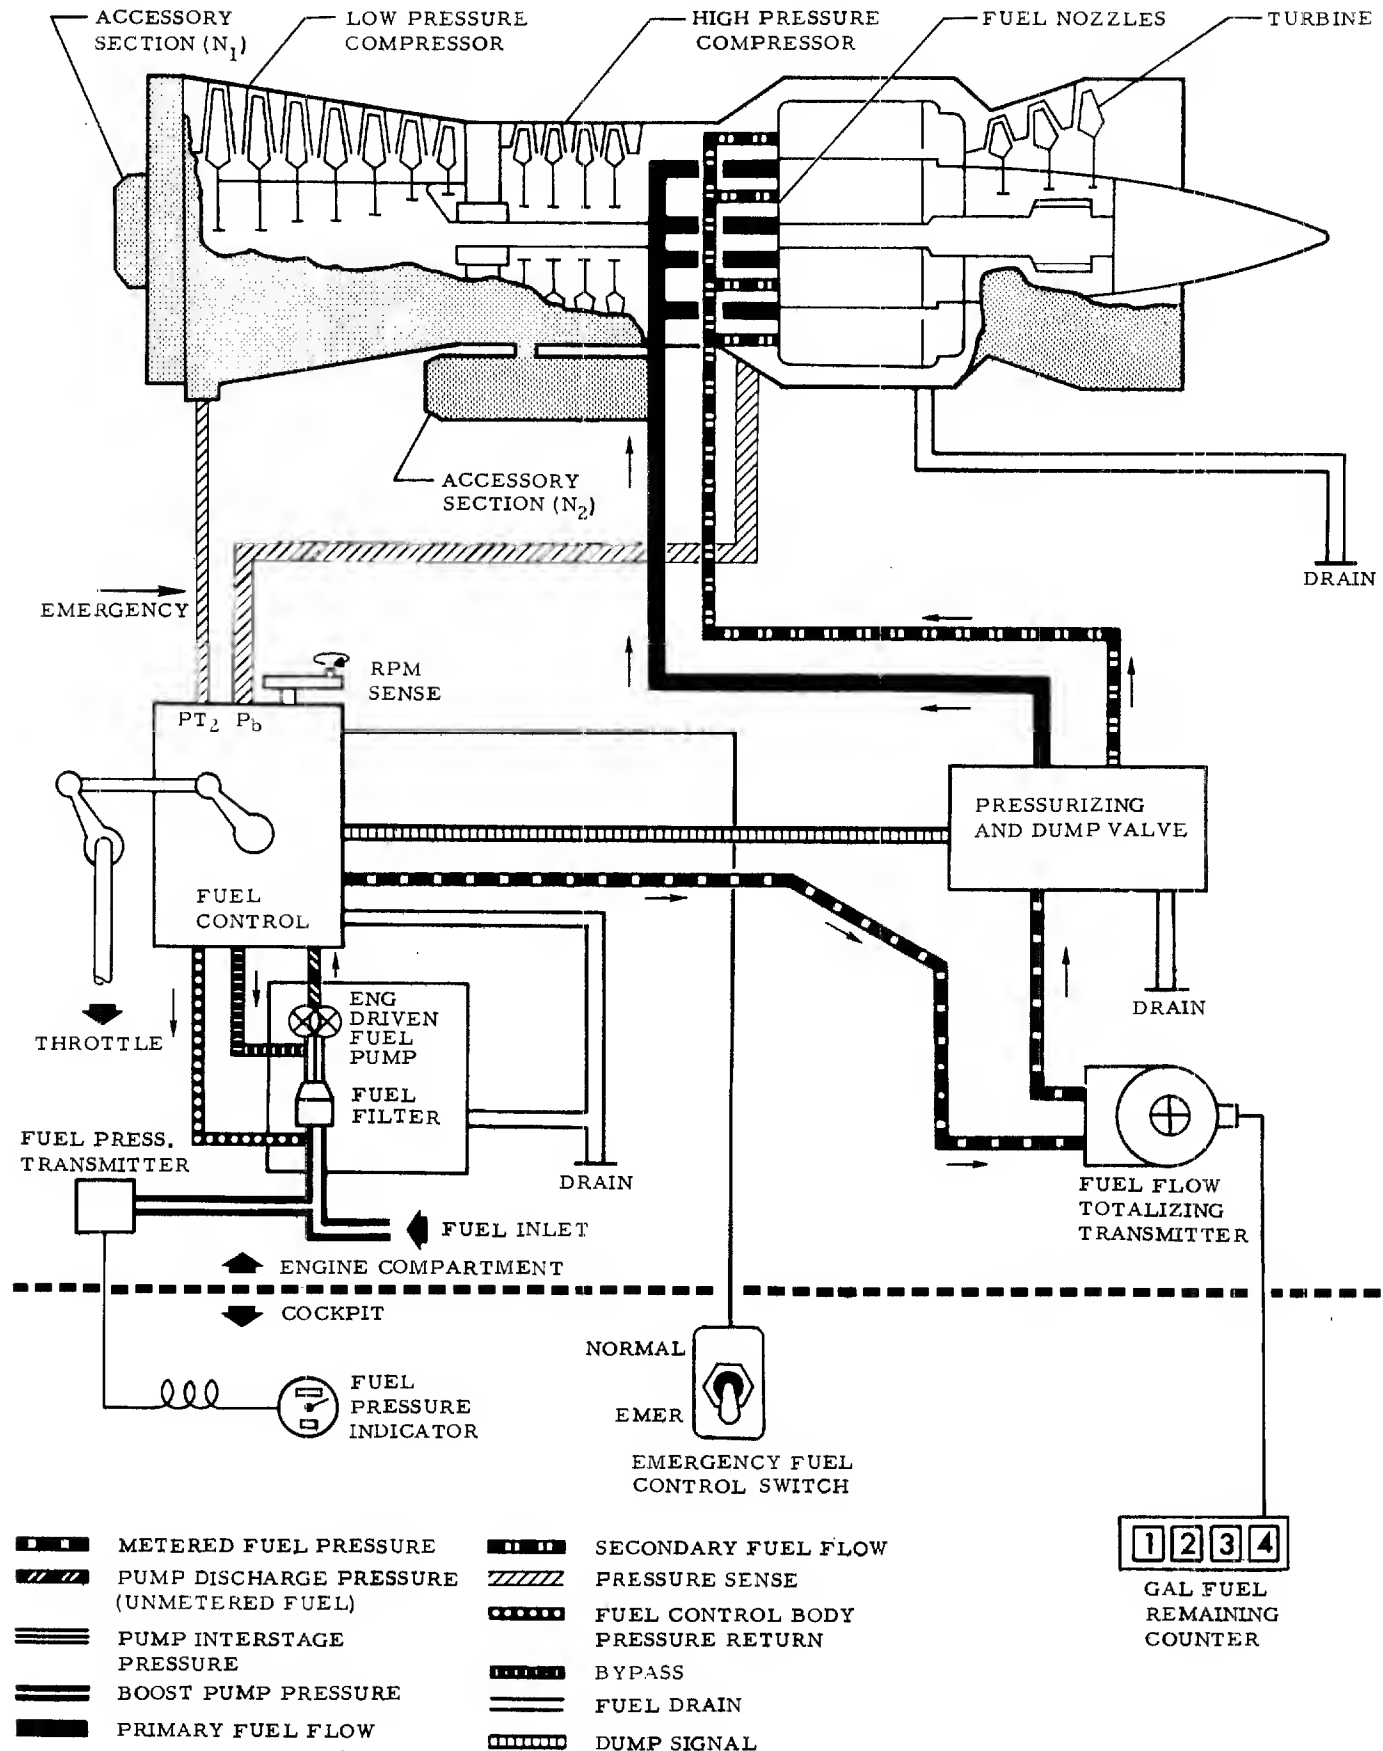

Figure 1-14. Engine Fuel System
- 1-149. The fuel system (see figure 1-14.) consists of a fuel-oil cooler, main fuel strainer, engine fuel pump, hydromechanical fuel control, fuel flow totalizing transmitter, fuel pressurizing and dump valve, and the fuel manifolds.